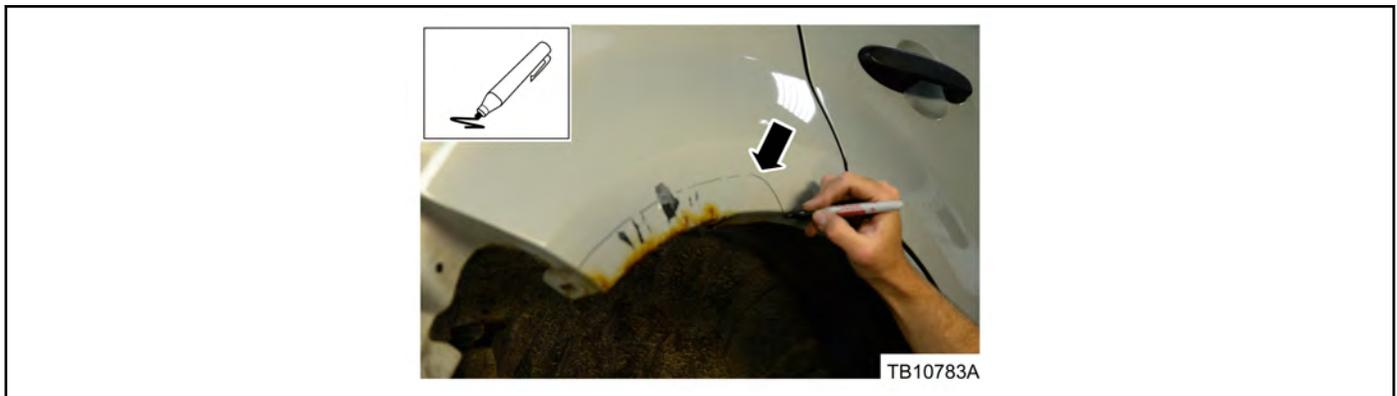

Figure 1 - Article 15-0157
5. Use a marker and trace a line 13 mm (1/2") beyond the corrosion area of the outer quarter panel. (Figure 1)